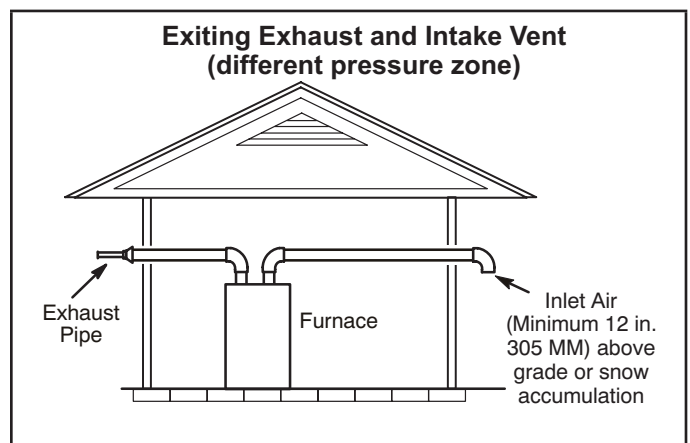
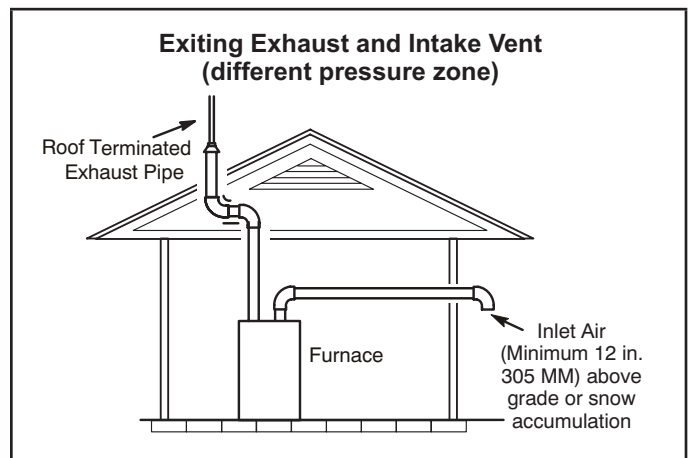

FIGURE 32
FIGURE 33
- 1 - Intake and exhaust terminations are not required to be in the same pressure zone. You may exit the intake on one side of the structure and the exhaust on another side (figure 32). You may exit the exhaust out the roof and the intake out the side of the structure (figure 33).